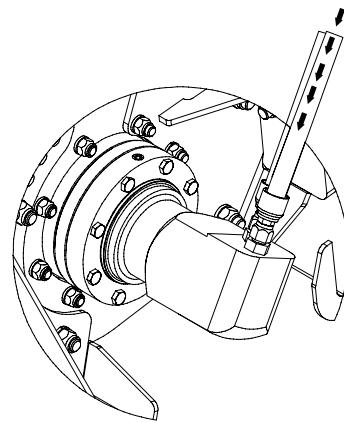

Figure 13
2. Connect the Supply Line to the "A" port on the hydraulic motor. (Hose shown with directional arrows) [Figure 13].